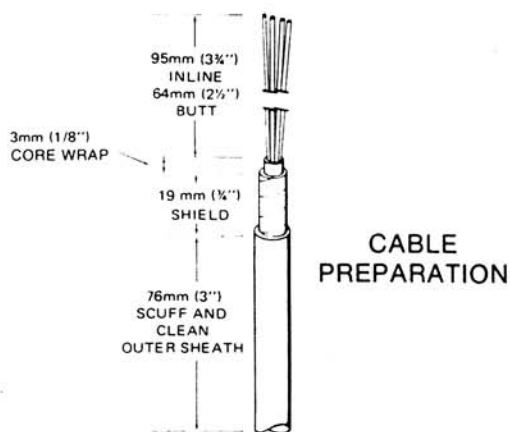

FIGURE 1
4. Prepare service wires per Figure 1. Scuff and clean surfaces that will come in contact with Compound. Use of Scotch cast Brand 4415 Service Wire Cleaning Kit is recommended.